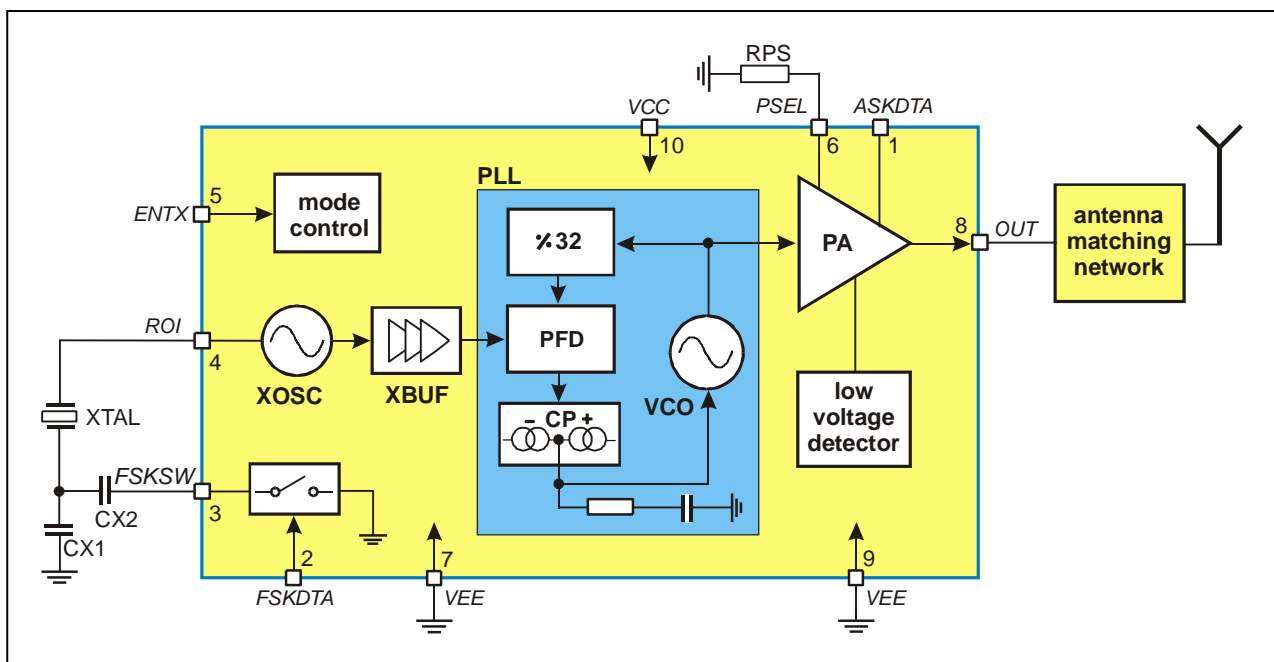

Fig. 1: Block diagram with external components
As depicted in Fig.1, the TH72005 transmitter consists of a fully integrated voltage-controlled oscillator (VCO), a divide-by-32 divider (div32), a phase-frequency detector (PFD) and a charge pump (CP). An internal loop filter determines the dynamic behavior of the PLL and suppresses reference spurious signals. A Colpitts crystal oscillator (XOSC) is used as the reference oscillator of a phase-locked loop (PLL) synthesizer. The VCO's output signal feeds the power amplifier (PA). The RF signal power P_{out} can be adjusted in four steps from $P_{out} = -12$ dBm to +11 dBm, either by changing the value of resistor RPS or by varying the voltage V_{PS} at pin PSEL. The open-collector output (OUT) can be used either to directly drive a loop antenna or to be matched to a 50ohm load. Bandgap biasing ensures stable operation of the IC at a power supply range of 1.95 V to 5.5 V.